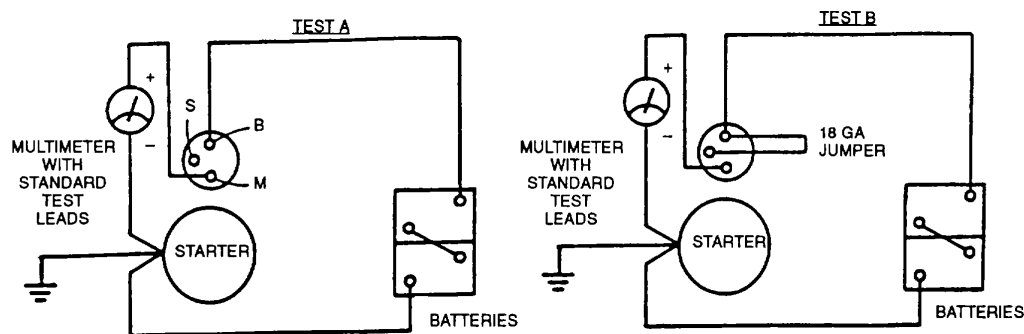

FIGURE 3-32. Starter Solenoid Test Circuit
- b. Set multimeter for DC volts, and connect as shown in FIGURE 3-32, Test A. If voltage is indicated solenoid is defective.
- c. Momentarily connect a jumper as shown in FIGURE 3-32, Test B. Multimeter should indicate battery voltage and starter should crank the engine. If multimeter does not read battery voltage, the solenoid is defective. If multimeter indicates battery voltage, but starter does not operate, starter is defective.